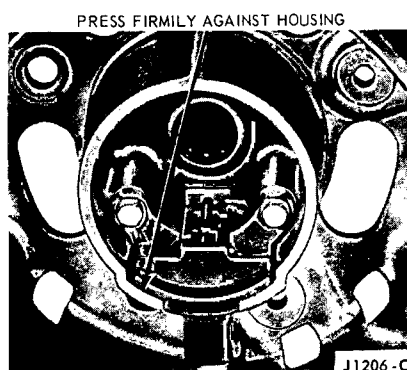

FIG. 7—Brush Lead Positions
7. Position the brush holder assembly in the rear end housing and install the mounting screws. Position the brush leads in the brush holder as shown in Fig. 7.